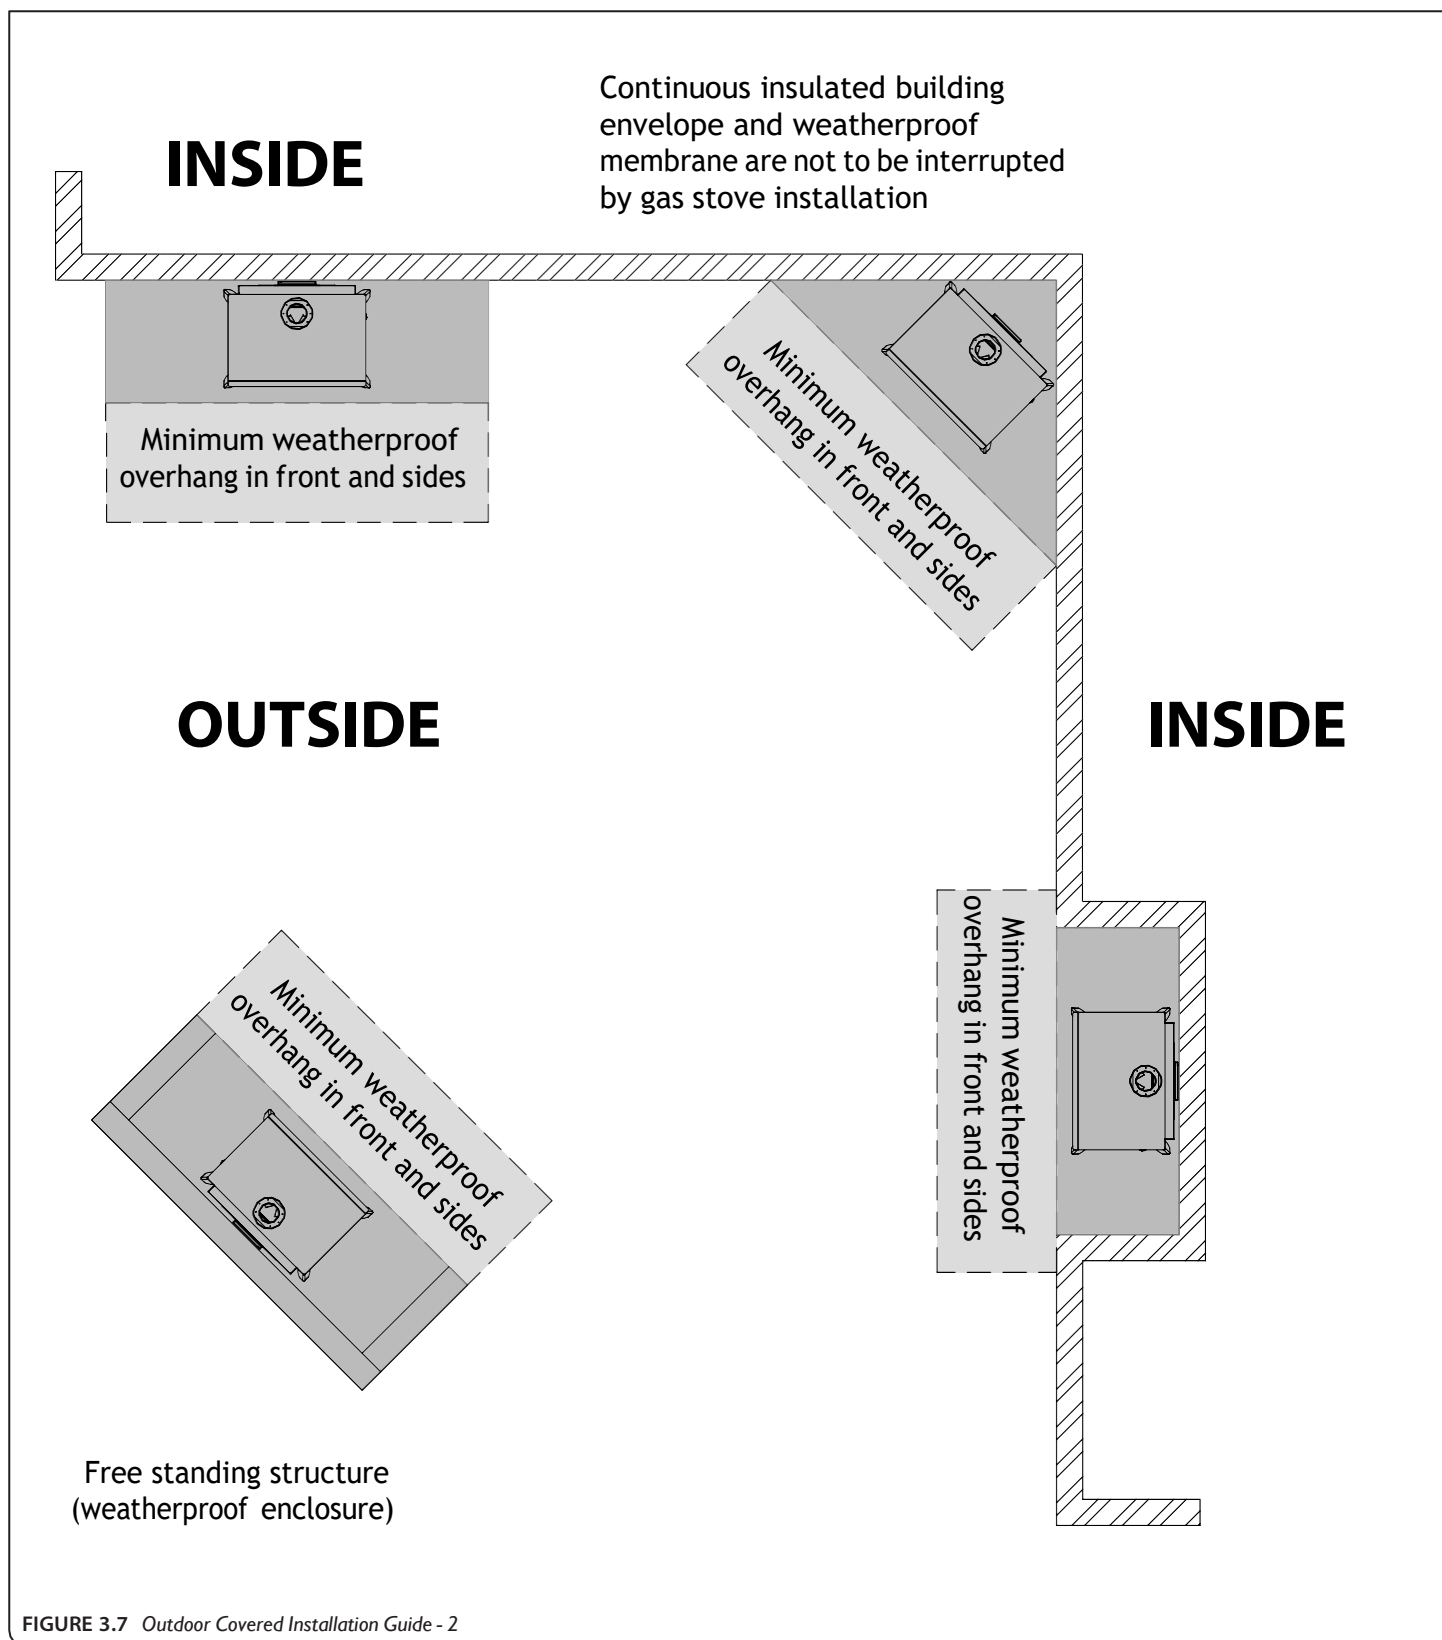

FIGURE 3.7 Outdoor Covered Installation Guide - 2
- The continuous insulated building envelope and weatherproof membrane are not to be interrupted by gas stove installation. See **FIGURE 3.7** on page 17.